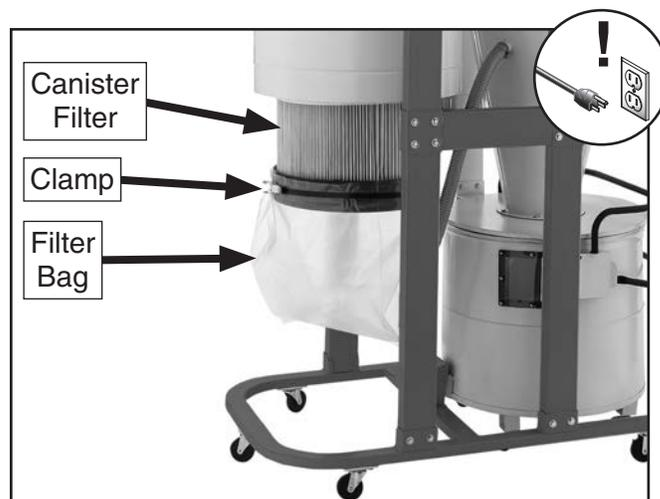

Figure 76. Filter bag components.
2. Release clamp around bottom of canister filter, then remove filter bag (see **Figure 76**).